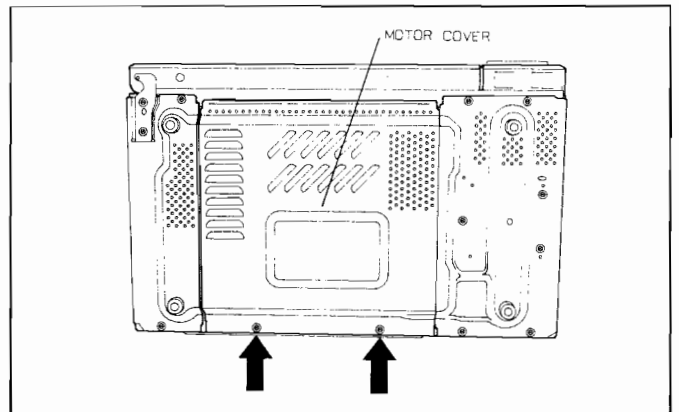

Fig. 28
- (C) Disconnect 2 lead wires from turntable motor. (Fig. 28)
- (E) Remove 2 screws holding turntable motor. (Fig. 28)